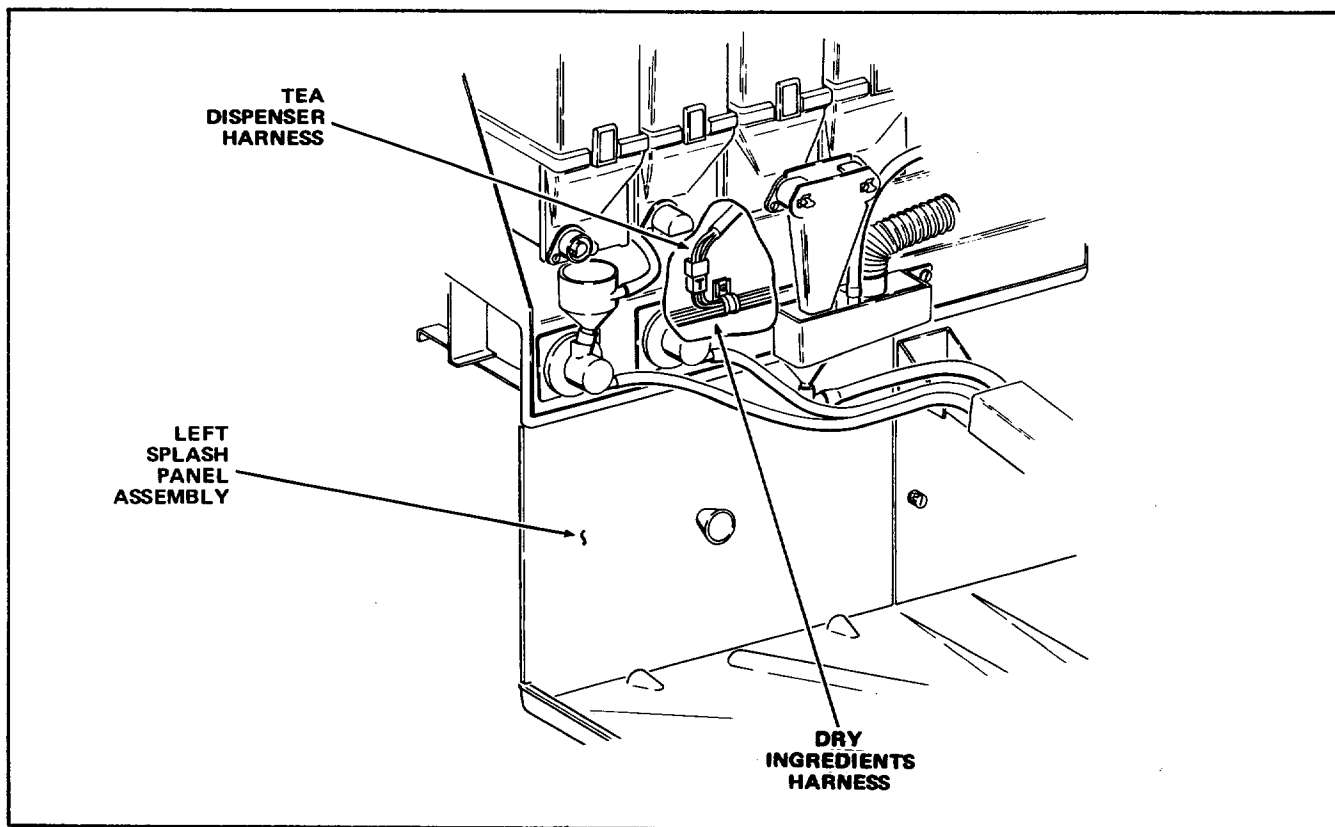
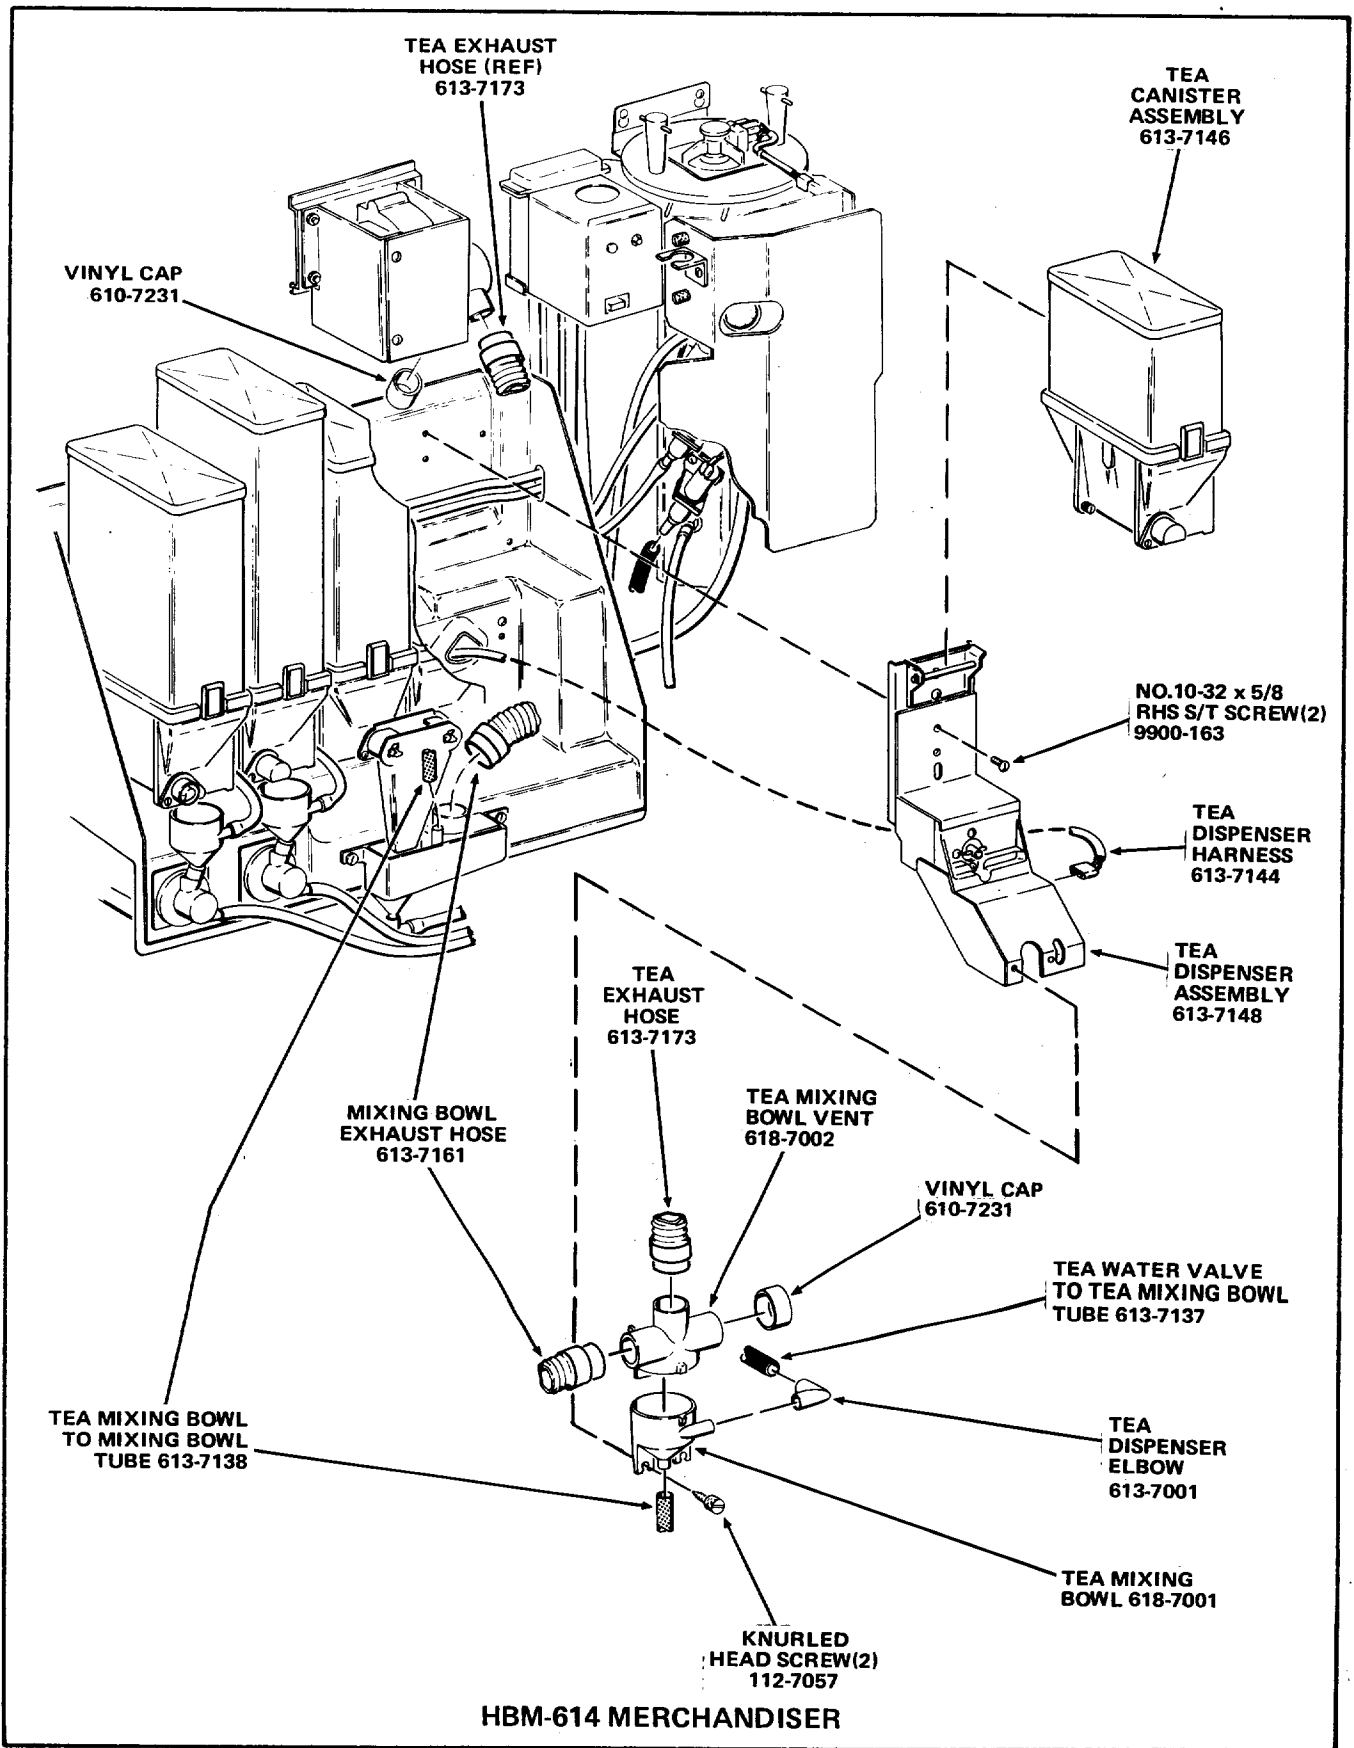
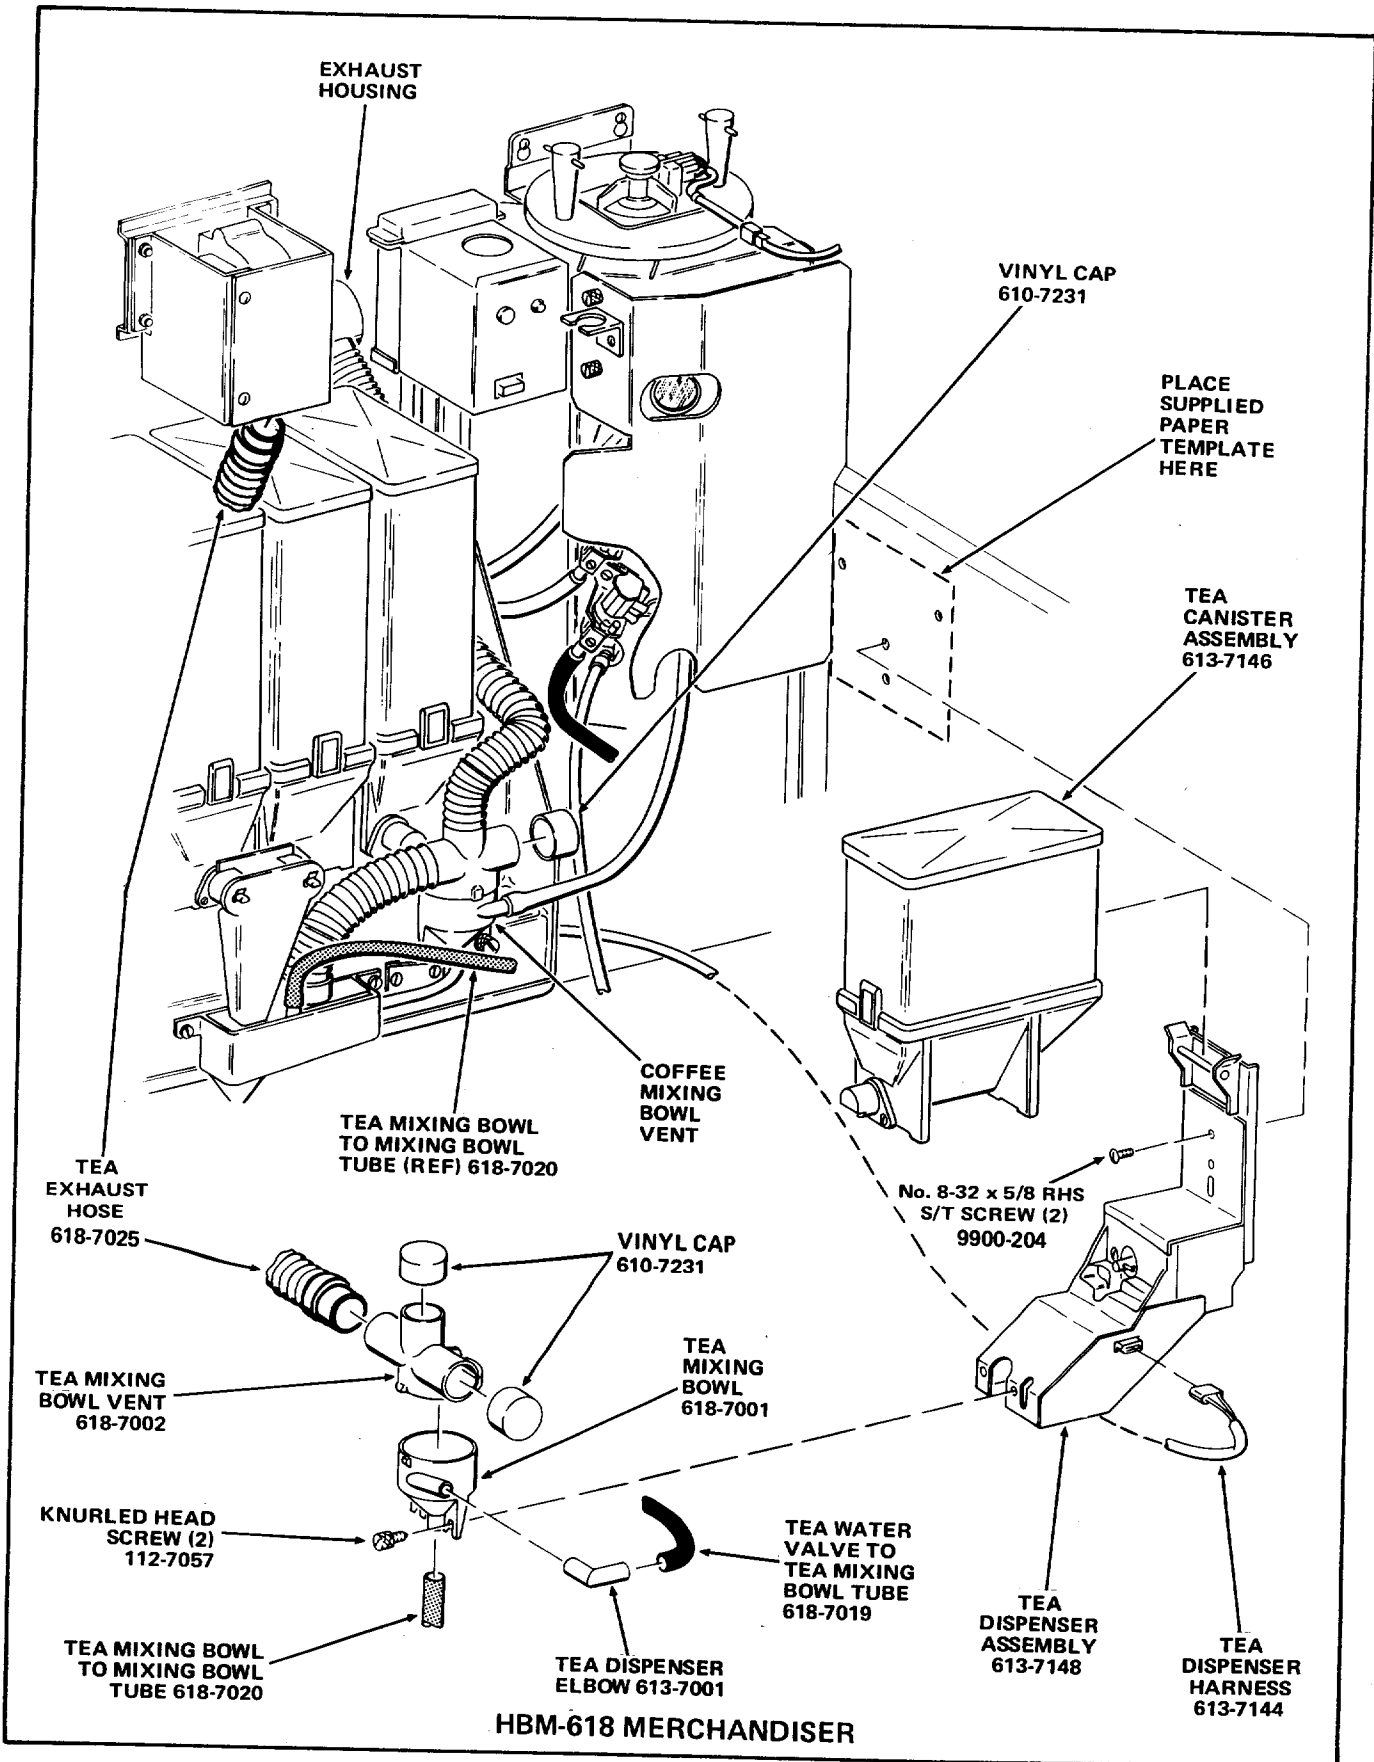

FIGURE 2
FIGURE 3
FIGURE 3A
9. Remove the Left Splash Panel Assembly from the Merchandiser. See Figure 2.
10. Disconnect the Tea Dispenser Harness from the Dry Ingredients Harness. See Figure 2.
1. Using page 8 as a template, align the two top holes of the template with the two existing mounting holes on the Right Sidewall; then drill two 9/64 inch diameter holes where indicated. See Figure 3A.
Figure 2. On HBM-614 Merchandisers, run the other end of the Tea Dispenser Harness through the hole in the Dry Ingredients Shelf as shown in Figure 3. On HBM-618 Merchandisers, run the other end of the Tea Dispenser Harness around the Dry Ingredients Shelf as shown in Figure 3A.
3. Install the Left Splash Panel Assembly in the Merchandiser. See Figure 2.
4. Install the Tea Dispenser Assembly, Part Number 613-7148, included in the Kit, in the Merchandiser and attach with two No.10-32 x 5/8 Round Head Self Tapping Screws, Part Number 9900-163, included in Kit 613-7151 or two No.8-32 x 5/8 Round Head Self Tapping Screws, Part Number 9900-204, included in Kit 618-7023. See Figure 3 for HBM-614 Merchandisers or Figure 3A for HBM-618 Merchandisers.
5. Connect the free end of the Tea Dispenser Harness to the receptacle on the Tea Dispenser Assembly. See Figure 3 or Figure 3A.
6. Attach the Tea Mixing Bowl, Part number 618-7001, included in the Kit, to the Tea Dispenser Assembly using two Knurled Head Screws, Part Number 112-7057, included in the Kit. See Figure 3 or Figure 3A.
7. Fit the Tea Mixing Bowl Vent, Part Number 618-7002, included in the Kit, on top of the Tea Mixing Bowl. See Figure 3 or Figure 3A.
8. Install the Tea Dispenser Elbow, Part Number 613-7001, included in the Kit, on the Tea Mixing Bowl. See Figure 3 or Figure 3A.
9. Connect one end of the 10 inch Tea Water Valve to Tea Mixing Bowl Tube, Part Number 613-7137, included in the Kit, to the Tea Dispenser Elbow on the Tea Mixing Bowl and the other end of the Tube to the Tea Water Valve. See Figure 3.
10. Connect one end of the 8 3/4 inch Tea Mixing Bowl to Mixing Bowl Tube, Part Number 613-7138, included in the Kit, to the bottom of the Tea Mixing Bowl and the other end of the Tube to the Mixing Bowl. See Figure 3.
11. Connect one end of the shorter Mixing Bowl Exhaust Hose, Part Number 613-7161, included in the Kit, to the left side of the Tea Mixing Bowl Vent and the other end of the Mixing Bowl Exhaust Hose to the top of the Mixing Bowl. See Figure 3.
12. Connect one end of the longer Tea Exhaust Hose, Part Number 613-7173, included in the Kit, to the top of the Tea Mixing Bowl Vent and the other end of the Tea Exhaust Hose to the Exhaust Housing. See Figure 3.
13. Place the two Vinyl Caps, Part Number 610-7231, included in the Kit, over the openings in the Exhaust Housing and Tea Mixing Bowl Vent. See Figure 3.
14. Connect one end of the 11 3/4 inch Tea Water Valve to Tea Mixing Bowl Tube, Part Number 618-7019, included in the Kit, to the Tea Dispenser Elbow on the Tea Mixing Bowl and the other end of the Tube to the Tea Water Valve. See Figure 3A.
15. Connect one end of the 12 1/2 inch Tea Mixing Bowl to Mixing Bowl Tube, Part Number 618-7020, included in the Kit, to the bottom of the Tea Mixing Bowl and the other end of the Tube to the Mixing Bowl. See Figure 3A.
16. Place the Vinyl Cap, removed in Step A-13, over the opening on the right side of the Coffee Mixing Bowl Vent. See Figure 3A.
17. Connect one end of the Tea Exhaust Hose, Part Number 618-7025, included in the Kit, to the left side of the Tea Mixing Bowl Vent and the end of the Tea Exhaust Hose to the Exhaust Housing. See Figure 3A.
18. Place the two Vinyl Caps, Part Number 610-7231, included in the Kit, over the openings on the Tea Mixing Bowl Vent. See Figure 3A.
19. Place the Tea Canister Assembly, Part Number 613-7146, included in the Kit, on the Tea Dispenser Assembly making sure the Canister Hanger on the rear of the Tea Canister Assembly hooks on the Canister Mounting Bracket Assembly and that the roll pin on the Tea Dispenser Motor fits in the Coupling on the Tea Auger Assembly. See Figure 3 or Figure 3A.